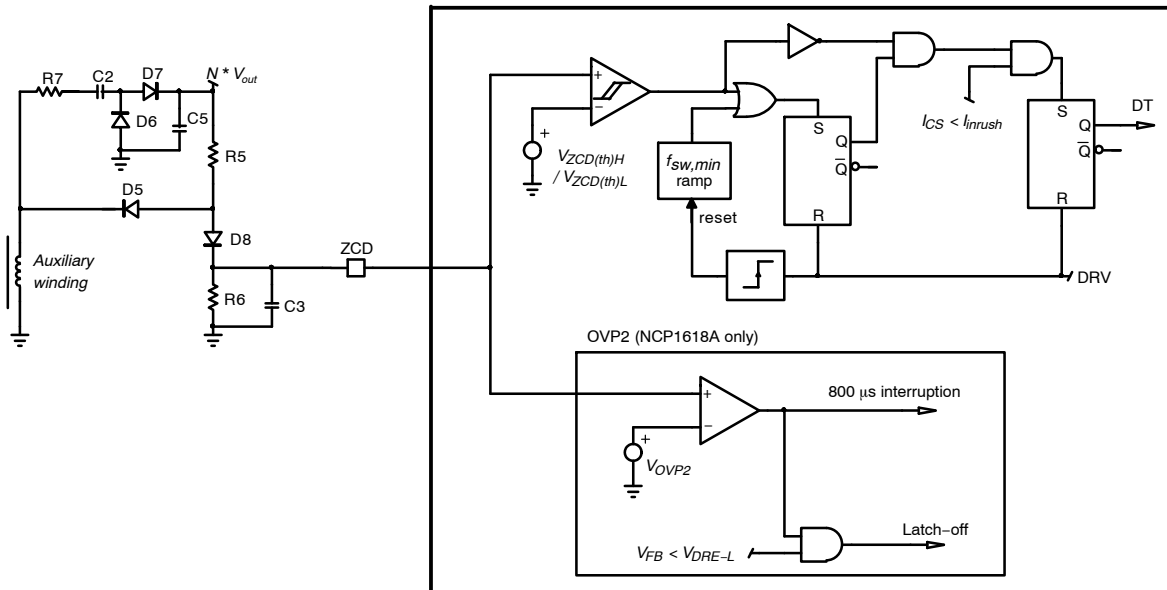

Figure 10. Zero Current Detection Block
Application note AND90011 discusses recommended circuitries for an accurate ZCD and OVP2 detections. Figure 10 provides one of these circuitries. In this circuit, R_7 being small, capacitor C_2 is charged to
Figure 10 shows how the NCP1618 detects the valley. An internal comparator detects when ZCD pin voltage exceeds an upper threshold V_{ZCDH} (1 V typically). When this is the case, the inductor core is resetting and the ZCD latch is set. This latch will be reset when the next driver pulse occurs. Hence the output of the latch remains high during the whole off-time (demagnetization time + any possible dead time). The output of the comparator is also inverted to form
- The ZCD pin impedance (for instance R_3 of Figure 10), must be higher than 7.5 k Ω not to trigger the ZCD pin short-to-ground protection.
If no ZCD can be detected when the circuit operates in FCCrM mode, the circuit cannot use the valley detection to start a new current cycle. In this case, the next DRV pulse is forced by the DCM minimum frequency ramp ($f_{sw,min}$ ramp of Figure 10) which acts as a watchdog.
- If the pin is grounded, no falling edge of the auxiliary winding can be detected. The DRV remains off until the DCM minimum frequency ramp initiates a new cycle. Before the new pulse is generated, the circuit senses the pin impedance by sourcing 250 μ A. No DRV pulses are generated until the pin voltage exceeds V_{ZCDH} . Hence, the part is inhibited when the pin is grounded. Not to trigger this protection, the pin impedance (for instance R_3 of Figure 10, must be higher than 7.5 k Ω).